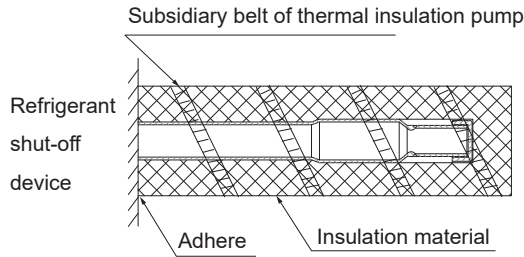

Fig.6-6
4. Insulation tube installation instructions for unused branch ports (indoor unit side) (gas and liquid pipes) (See Fig.6-6) .